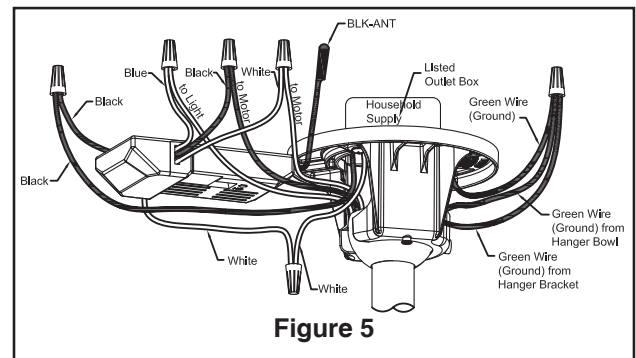

Figure 5
- 5. Route wires through Motor Coupling Cover, Canopy Screw Cover and Ceiling Canopy. (Figure 5)
- 4. Connect green wires from hanger bracket and hanger ball to bare (ground) wire using wire connector supplied. Connect black wire from receiver unit marked "AC IN L" to black supply wire using wire connector supplied. Connect white wire from receiver unit marked "AC IN N" to white supply wire using wire connector supplied. Connect white wire from receiver unit marked "TO MOTOR N" to white wire from fan using wire connector supplied with receiver. Connect black wire from receiver unit marked "TO MOTOR L" to black wire from fan using wire connector supplied. Lastly, connect blue wire from receiver to the blue fan light wire using wire connector supplied. Position all connected wires and receiver antenna to allow installation of ceiling canopy (Figure 5).
- 5. After splicing and making the wire connections, the wires should be spread apart and turned upward with the grounded conductor and the equipment-grounding conductor on one side of the outlet box and the ungrounded conductor on the other side of the outlet box. (Figure 5)
5. Secure the glass to light kit assembly by twisting in a clockwise direction. Do not over-tighten. (Figure 5)